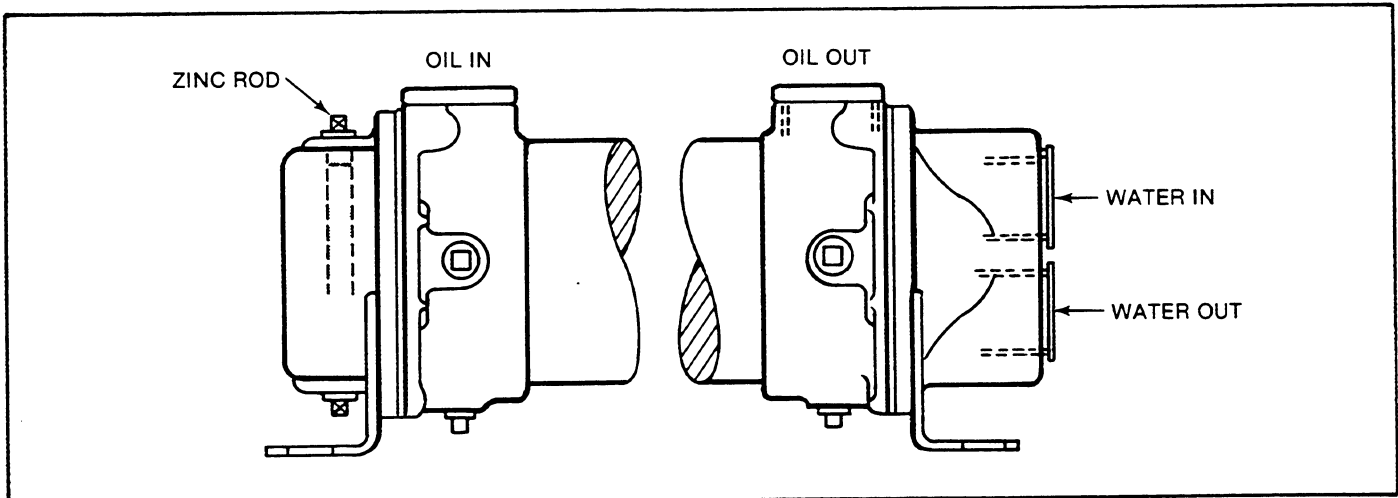

Figure 2-4. Typical Heat Exchanger Plumbing.
2. Heat exchangers furnished by Twin Disc, to be used for salt water applications, have zinc rods installed at the inlet and outlet heads. See Figure 2-4. These rods must be checked every 90 days. If over 50% of the rod is disintegrated, it should be replaced to provide effective protection.